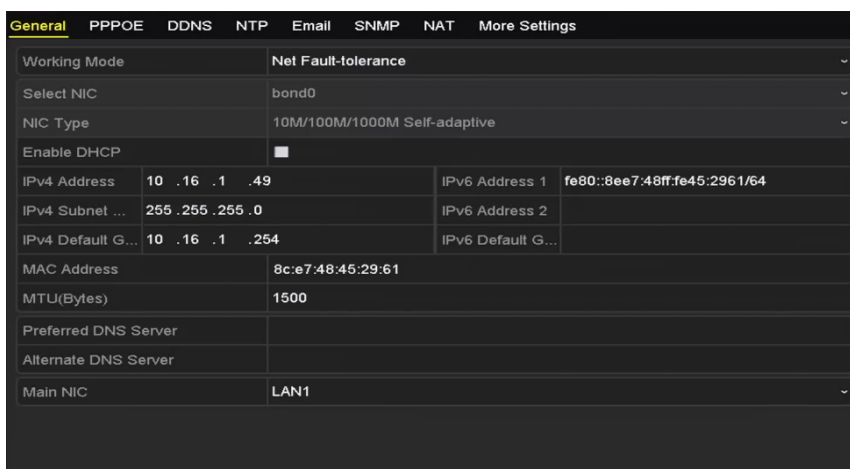

Figure 11. 22 Network Settings Interface
2. Set the IPv4 Address, IPv4 Subnet Mask, IPv4 Gateway and the Preferred DNS Server in the Network Settings menu, as shown in Figure 11. 22.